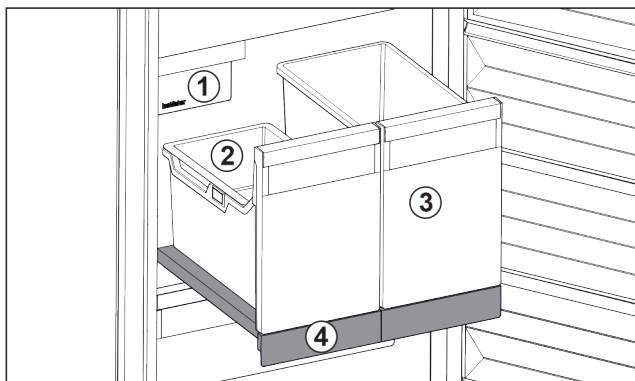

Fig. 96 Pull-out board with IceTower
- (1) IceMaker
- (2) Hang-on tray for ice cubes
- (3) Container for pizza or alcoholic beverages, for example
- (4) Pull-out board
On the pull-out board are two tall containers (IceTower). Ice cubes from the IceMaker are collected and stored in the container Fig. 96 (2). The container Fig. 96 (3) is suitable for storing tall foodstuffs or beverages such as pizzas or alcoholic drinks.